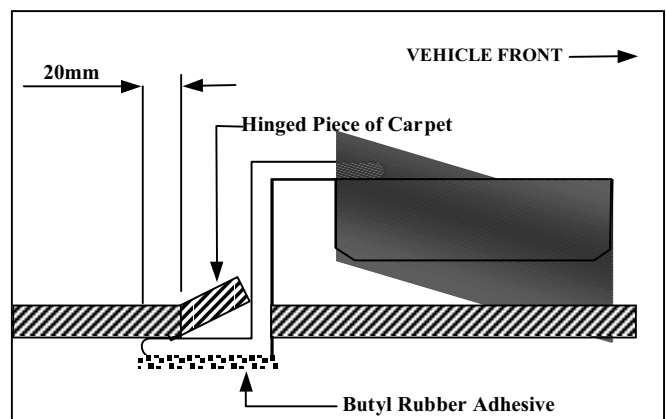

Figure F3
-  5. Clean floor of vehicle to remove dust and oils. Peel off paper coating from one side of butyl rubber adhesive and attach to rear of subwoofer bracket (Figure F3). Then install subwoofer in vehicle using front locator pins as guides and connect the wire harness.